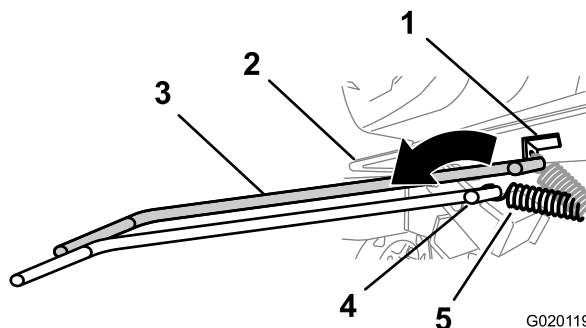

Figure 49
7. Using a spring-removal tool (Toro Part No. 92-5771), remove the spring from the anchor bracket on the engine deck (Figure 49).
7. Using a spring-removal tool (Toro Part No. 92-5771), install the tension spring to the anchor bracket on the engine deck (Figure 49).